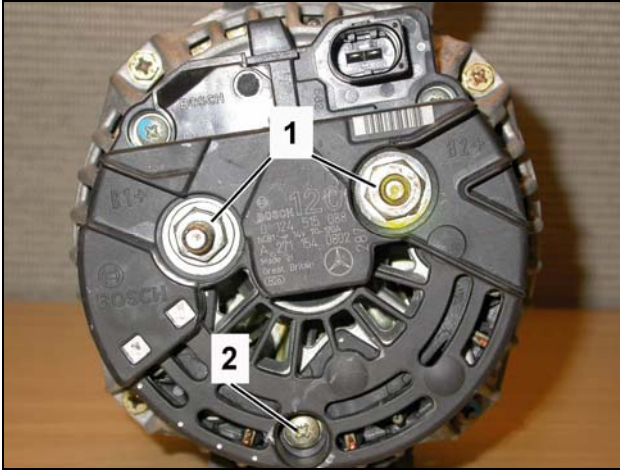

Figure 17
1. Remove the two nuts (1, Figure 17) from studs and one Philips head screw (2); remove the plastic cover from the rear of the generator.
4. Install the plastic cover on the back of the generator and torque the Philips head screw (2, Figure 17) to: 2.2 - 2.6 Nm and the two nuts (1) as follows: